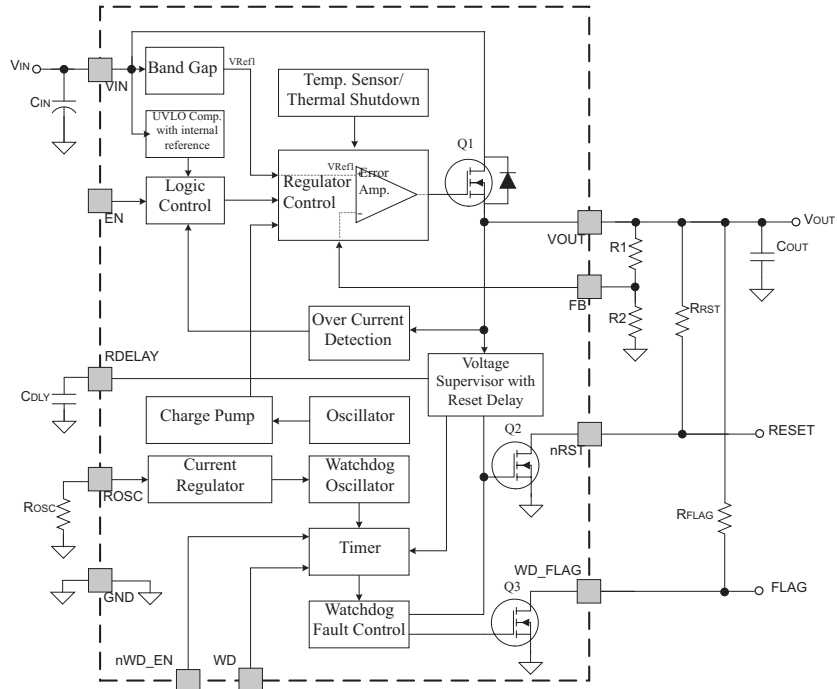

Figure 5. TPS7A6401 (Adjustable Output Voltage with FLAG Output)
- R1, R2 = feedback resistors (see Figure 5)